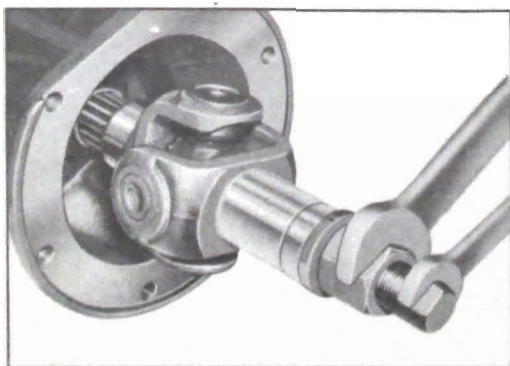

Figure 4-21—Installing Universal Joint with Replacer
(3) *Universal Joint.* Use Replacer J 855 to install universal joint on main shaft. See figure 4-21.